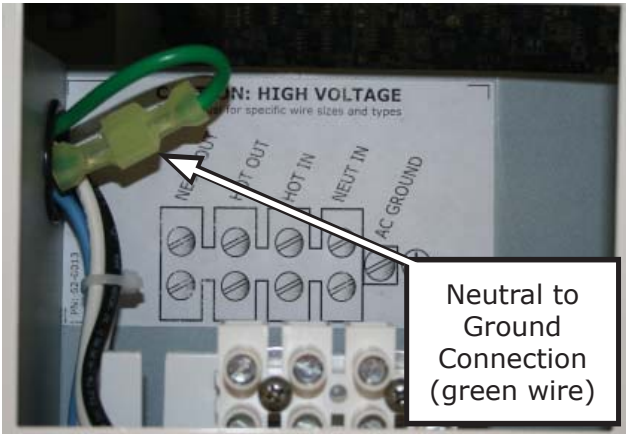

Figure 2-16, Disconnecting the Neutral to Ground Connection
- 2. Look inside and locate the green wire with the insulated connector at the top of the AC wiring compartment; see Figure 2-16. This insulated connector connects the neutral and ground inside the inverter.
When AC on the boat is being supplied by shorepower, the onboard neutral should be connected to safety ground on the dock. Consequently, neutral and safety ground should not be connected anywhere on the boat when shorepower is present. When AC on the boat is being supplied by the MS-E Series inverter, the inverter’s output neutral is connected to safety ground through an internal relay using its neutral to ground connection (see Figure 2-16).